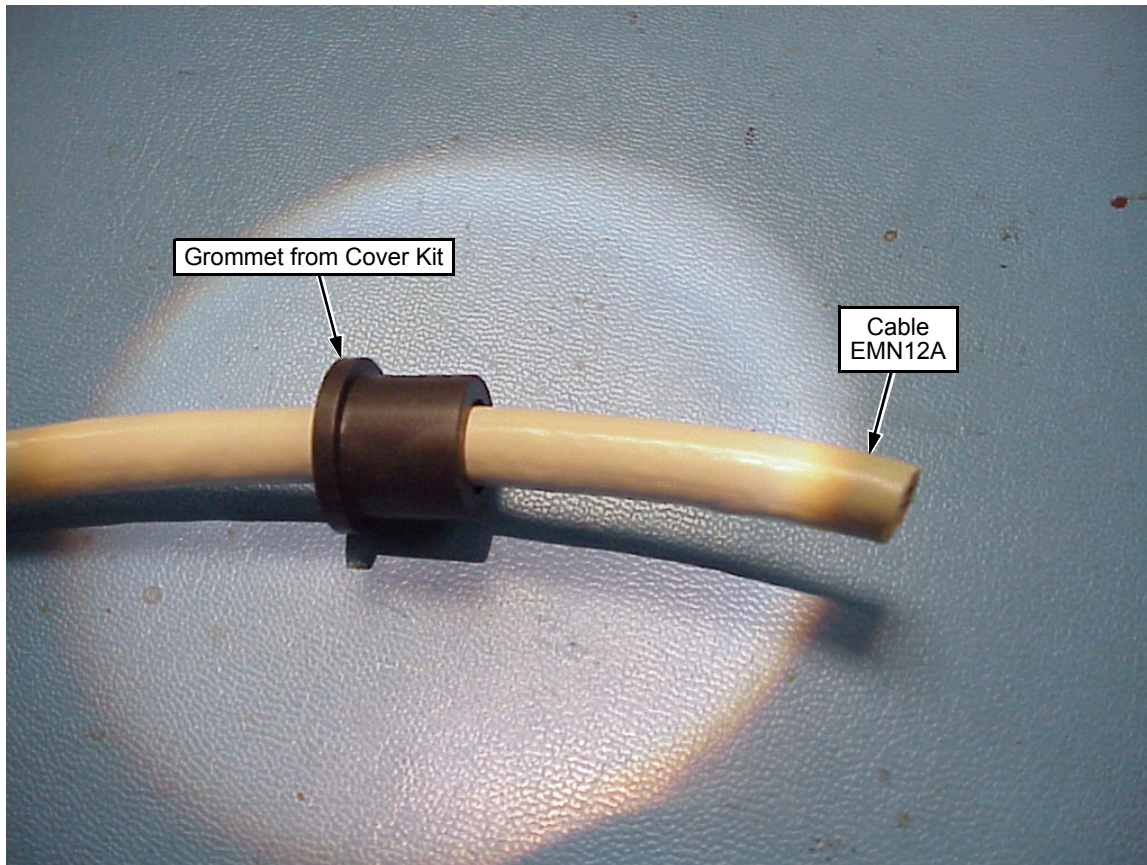

Figure 7. Installing the Grommet
1. Select the grommet from the cover kit that fits snugly on cable EMN12A and install it as shown in Figure 7.